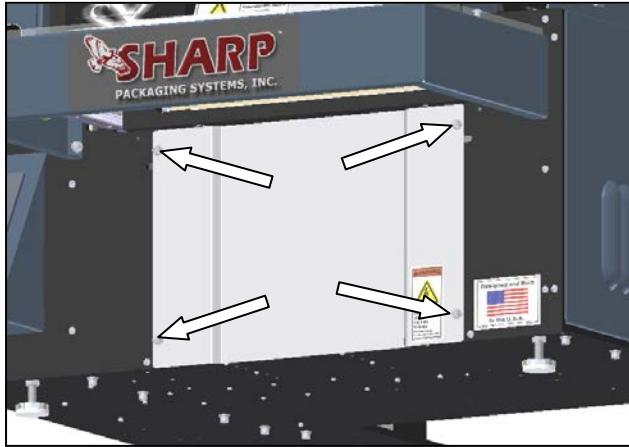

Figure 3-6. Load Plate Screws
1. Remove the four screws from the Load Plate and set aside (Figure 3-6).